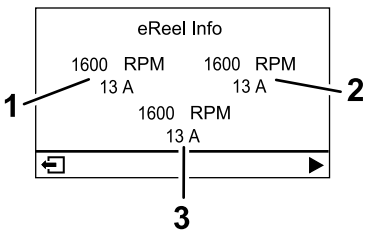

Figure 22
- **eReel motor screen (Figure 22):** shows the speed and current of each cutting-unit motor.